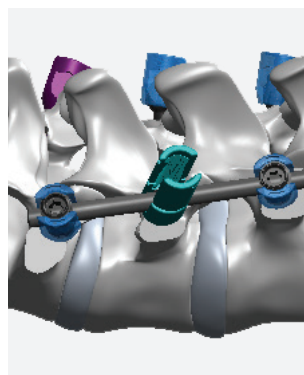
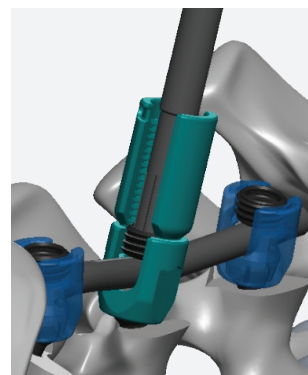

Figure 23A
Figure 23B
- After screw insertion, place the desired rod into the reduction screw head (Figure 23A). Retain a set screw from the caddy on the tip of the set screw inserter (Figure 23B). With the rod in the screw head or within the reduction tabs, use the set screw inserter to insert the set screw and rotate clockwise until the set screw rests on top of the rod (initial engagement).